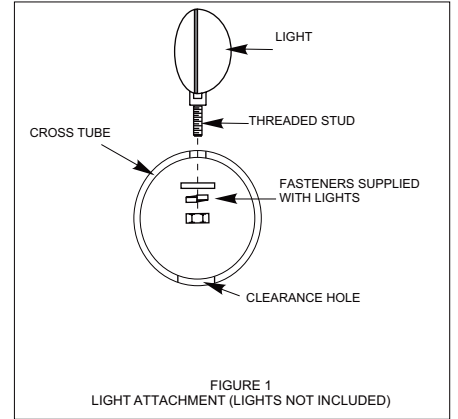

FIGURE 1 LIGHT ATTACHMENT (LIGHTS NOT INCLUDED)
- LIGHT INSTALLATION:** Insert threaded stud on base of the light through hole in cross tube. Using a ratchet, extension and socket for correct size of nut supplied, insert through large clearance hole in bottom of cross tube. Thread nut and washers on stud and tighten. **SEE FIGURE 1. NOTE:** A short socket, not a deep well works best to get the nut started.